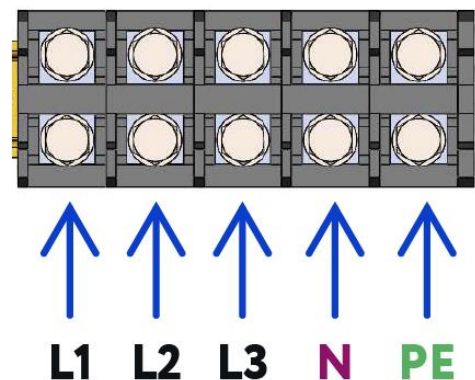

Figure 6 - Input busbars
- To the terminal block as shown in Figure 6 (for the case using a 3-phase connection or only L1 for a single-phase connection).